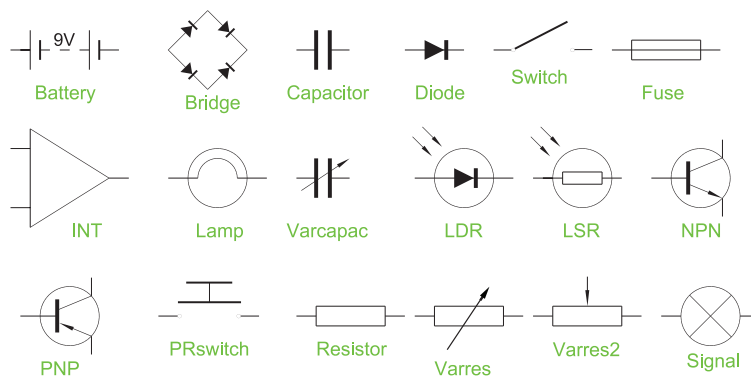

Fig. 9.17 Example using the DesignCenter – a set of electric/electronic systems
1. Construct the set of electric/electronic circuit symbols shown in Fig. 9.17 and make a series of blocks from each of the symbols.
2. Construct drawings of the electric/electronics symbols in Fig. 9.17 (p. 175) and save them as blocks in a drawing file **electronics.dwg**.